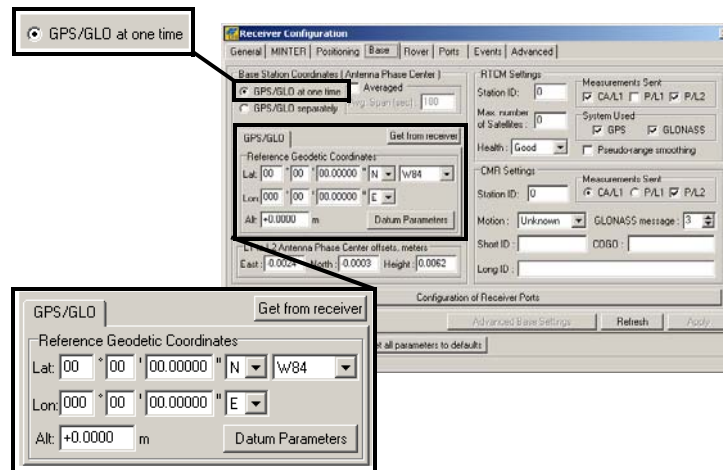

Figure 3-8. Base Configuration
9. Select the **Base** tab, set the following parameters (Figure 3-8), and click **Apply**: